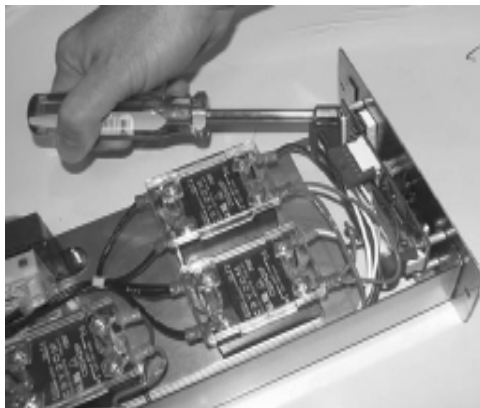

Figure 3
4. Using a 1/4" socket or wrench, remove the 4 nuts securing the control board to the panel and remove control board from panel. Figure 3.